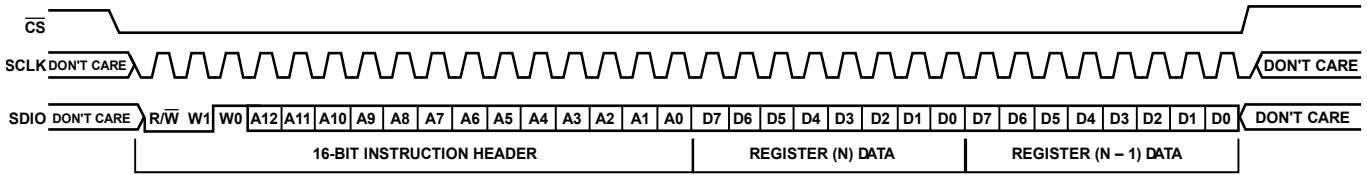
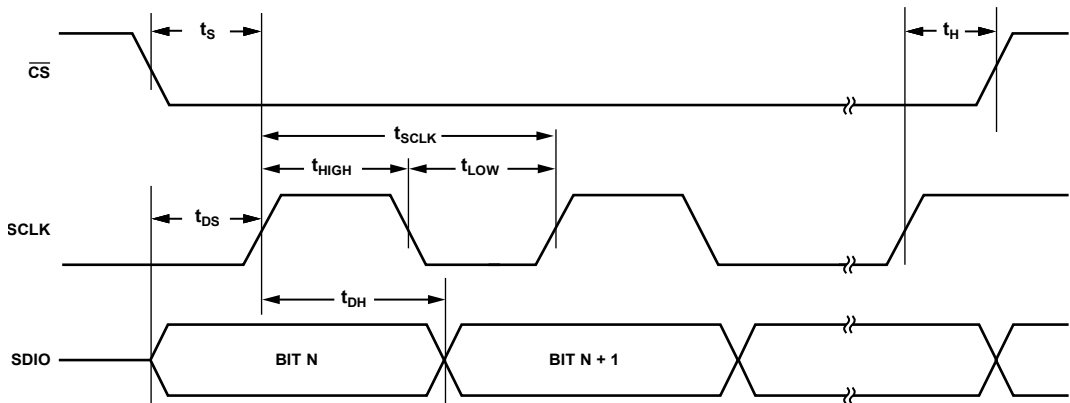

Figure 32. Serial Control Port Write—MSB First, 16-Bit Instruction, Two Bytes Data
Figure 37. Serial Control Port Timing for a Serial Control Port Register Write
**Table 51. Definition of Terms Used in the Serial Control Port Timing Diagrams (See Figure 32 Through Figure 37)**